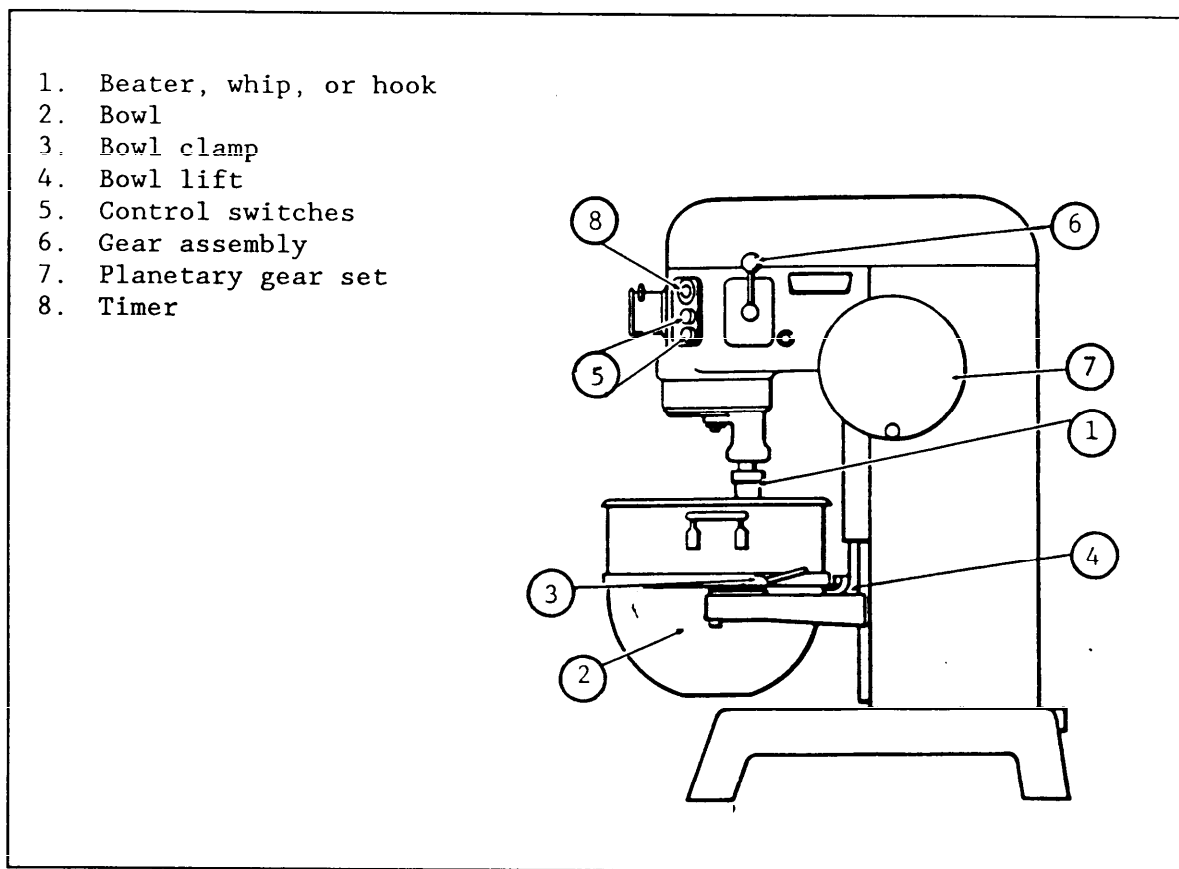

Figure 3
3.4.2 Major Mixer Components. Major mixer components include belt, motor, variable speed control, and the components listed in Figure 3.